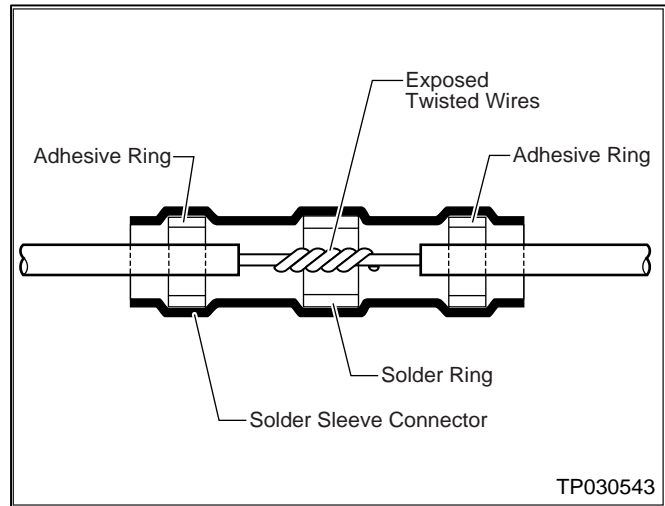

Figure 13
15. Position the solder sleeve connector so that the solder ring (in the connector) is centered around the exposed twisted wire area (see Figure 13).